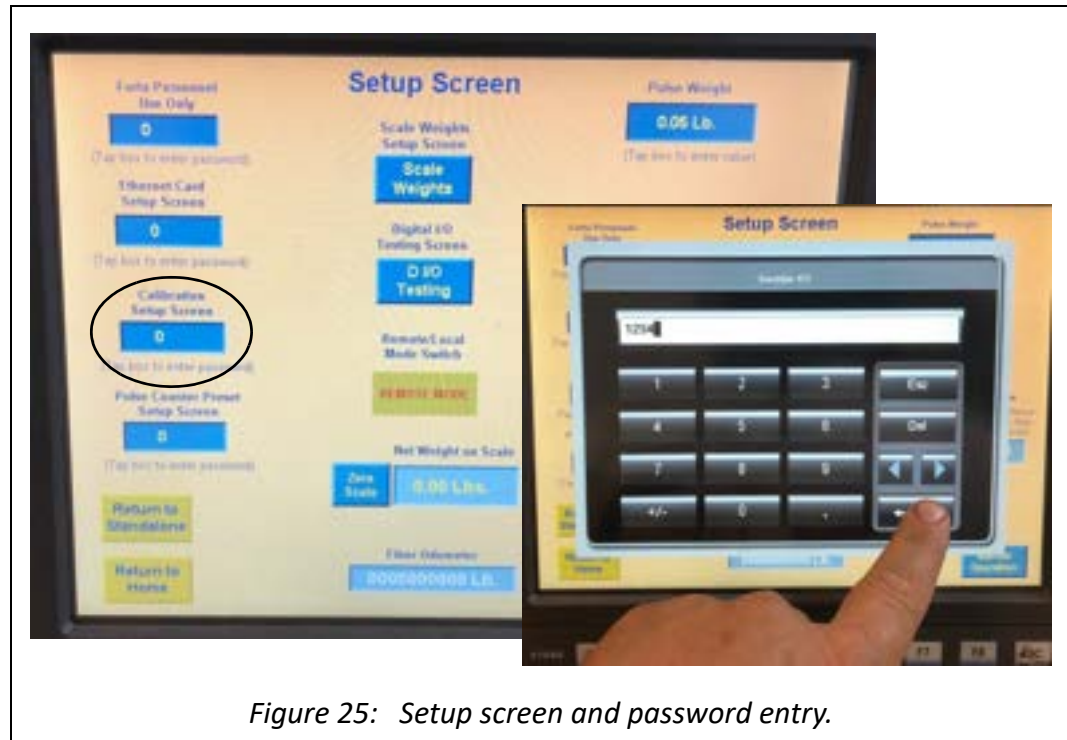

Figure 25: Setup screen and password entry.
- b. On the Setup Screen, touch the **Calibration Setup Screen** box on the touch screen (see Figure 25); a password entry screen will open. Enter the password “1234” on the touch screen and then touch the **Enter** symbol. The Calibration Screen should open (see Figure 26).